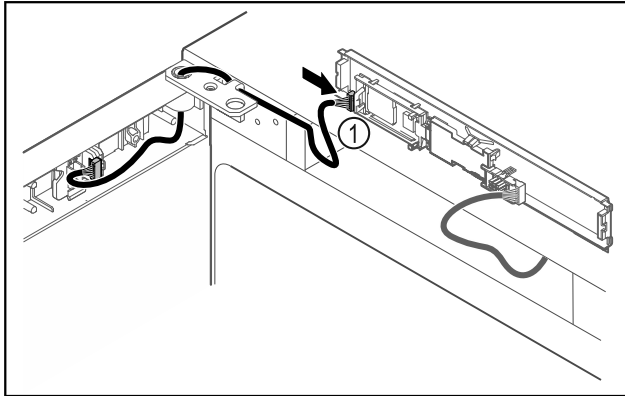

Fig. 44
- ▶ Connect the plug Fig. 44 (1) to the circuit board.